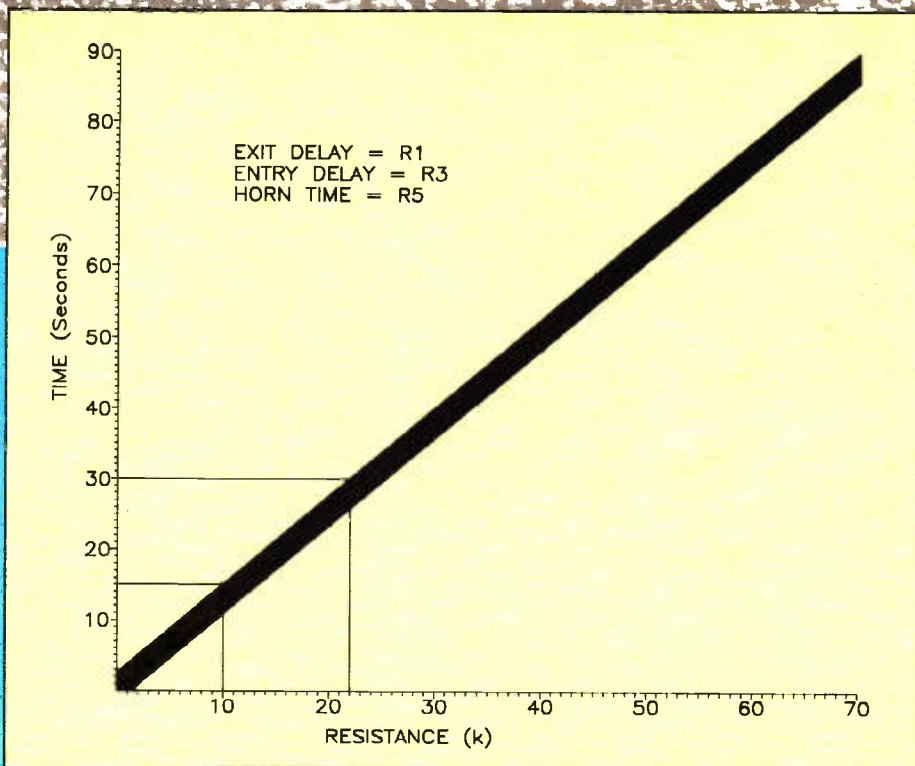

Figure 2. Timing chart.
The timing and control of various events can be modified. To alter the time lapse of an event is a simple matter of fitting a different value resistor (R) for that particular programmable timer IC. Thus altering the value of R1 will affect the exit delay time, changing R3 alters the entry delay, and R5 fixes the horn time, see Figure 2. The only instance where it might become really necessary to alter the exit delay period is if your vehicle is fitted with a courtesy light extender unit. To accommodate this *increase* the exit delay timing resistor R1 to make the exit delay time slightly longer than the light switch-off time.